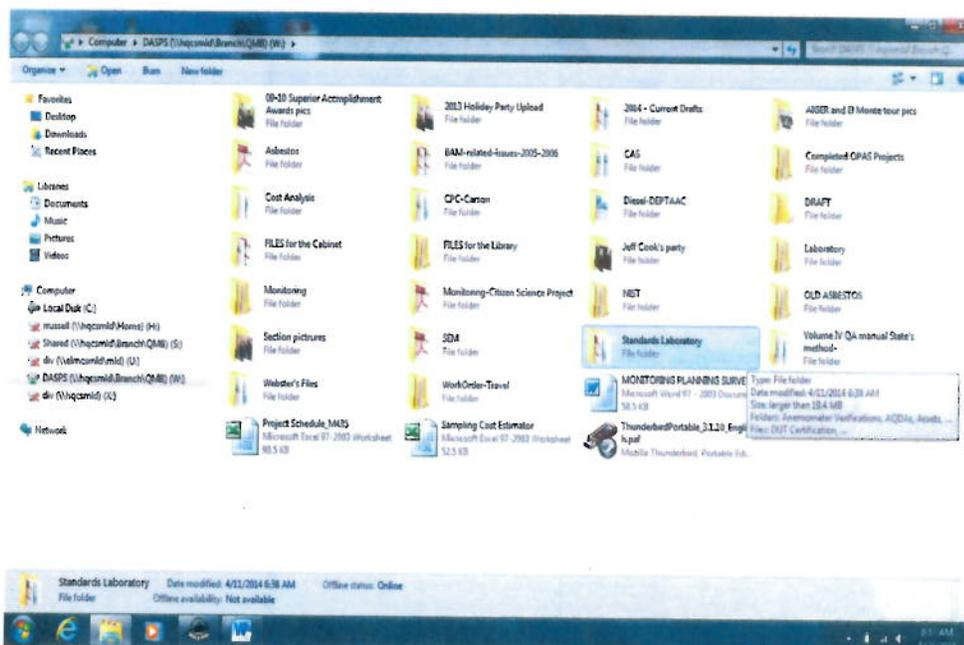

Figure 6
11.6 Double-Click on the “Standards Laboratory” folder. See Figure 6.